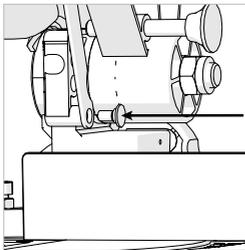

Fig. 28
- Replace the guard operating arm and its retaining pivot screw. **(Fig. 28)**